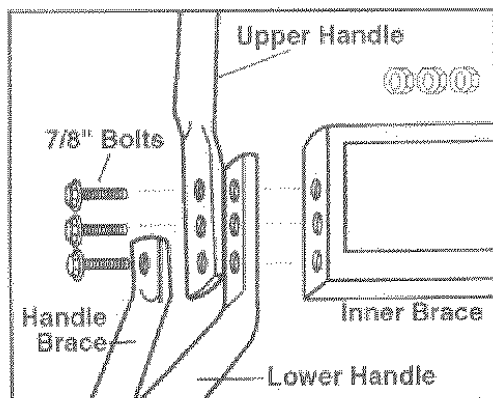

FIGURE 1: Use two factory-installed bolts and nuts, plus four bolts and nuts included in the hardware kit to install the handle.
- A. Remove the bolt and nut securing the left-side handle brace to the lower handle and inner brace (see Figure 1).